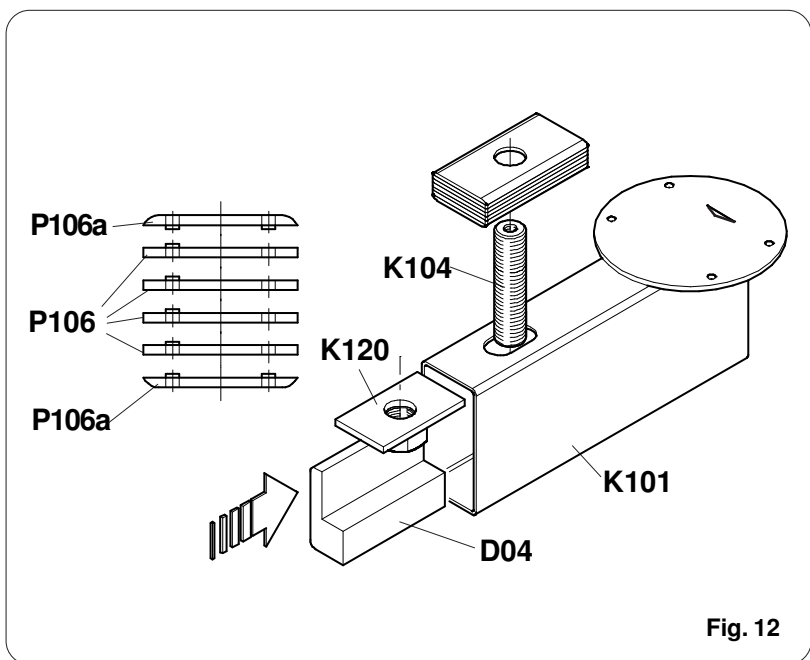

Fig. 12
Form the spacer package by assembling the **P106 - P106a** spacers as shown in fig. 12.
- Insert the **K120** plate into the **K101** support module and maintain its position by means of the **D04** template as shown in fig. 12. Screw the **K104** pin into the **K120** plate described above as shown in fig. 12